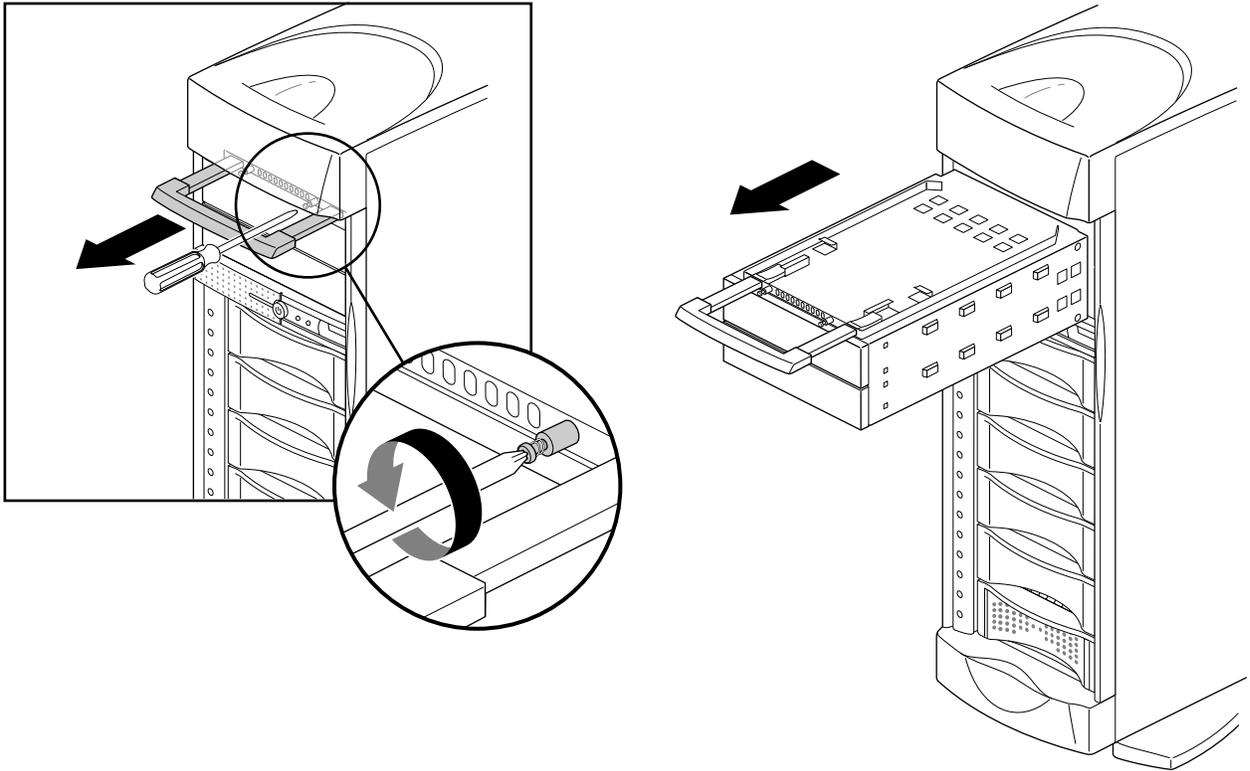

Figure 2-17 Removing the 5.25-Inch Peripheral Carrier
2. Remove the carrier, as shown in Figure 2-17.